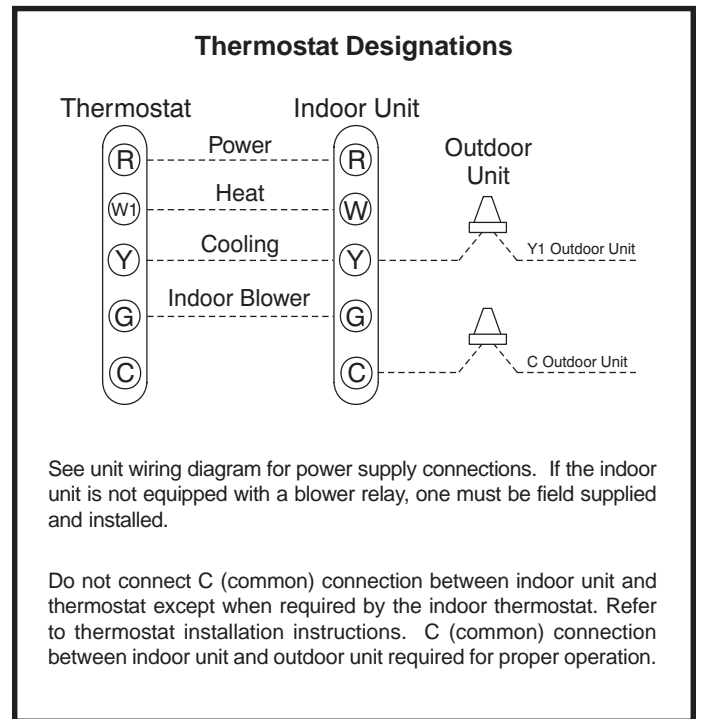

Figure 3
4. Install low voltage wiring from outdoor to indoor unit and from thermostat to indoor unit (see Figure 3).